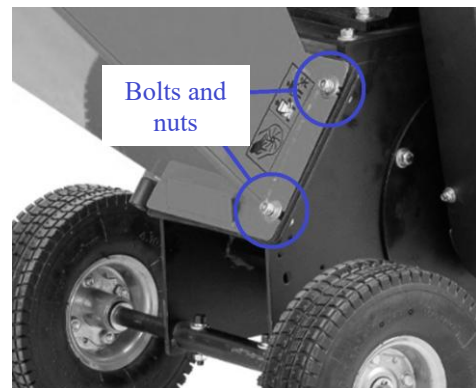

Fig. 4c
- Secure the feeding hopper in place using the supplied bolts (a) and nuts (b), as illustrated in Fig. 4c.